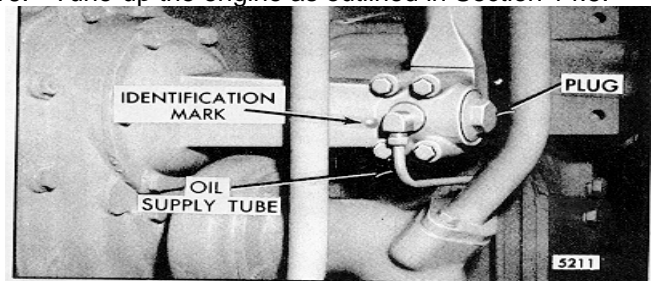

Fig. 8-Governor Weight Housing
**NOTE 2:** Current weight housings have two ribs cast on the inner surface of the housing to prevent any part of the riser thrust bearing from sliding forward to where the operating fork could be inserted on the wrong side of one or more parts of the bearing. For ease in assembling the governor control housing to the interim weight housings (no identification mark), Fig. 8, place a 3/8"-24 x 3/4" or 7/8" bolt, from which the outer 1/2" of thread down to a diameter of 5/16" to 1/4" has been removed, in the 1/8" NPIYF oil hole to prevent the thrust bearing from moving too far forward in the weight housing.